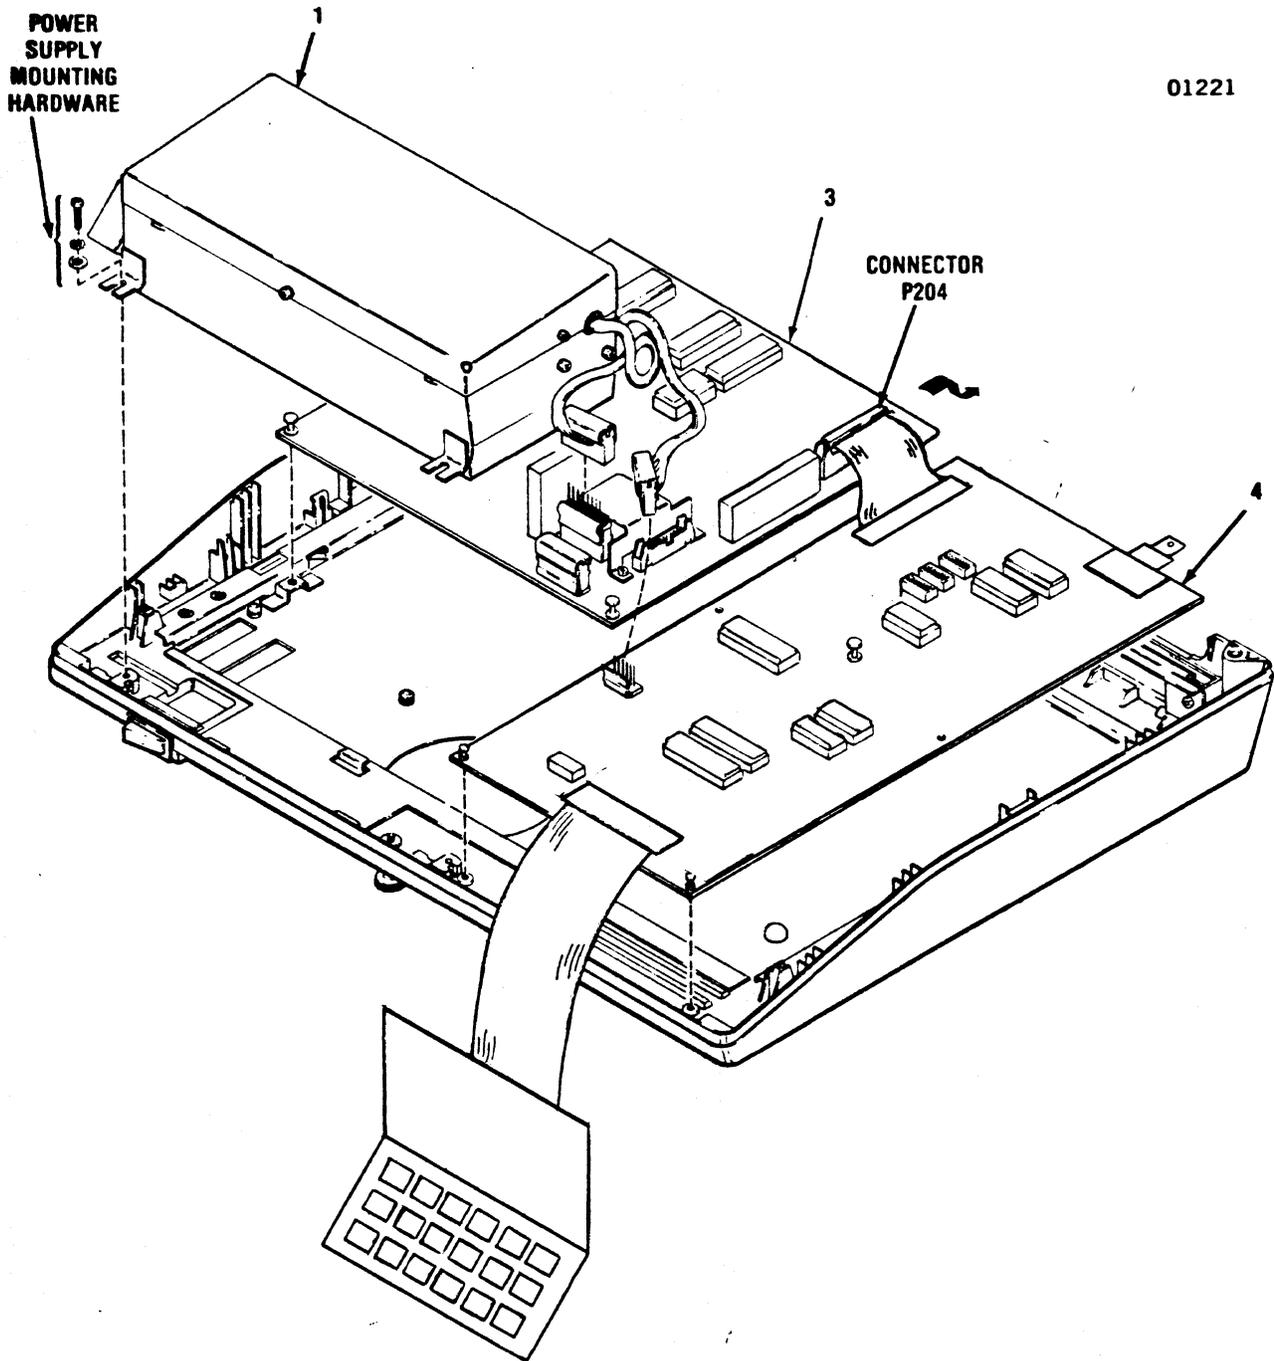

Figure 5-18. REMOVAL/REPLACEMENT POWER SUPPLY ASSEMBLY, FORMAT/CONTROLLER CABLE PRINT CONTROLLER PCB AND FORMAT CONTROLLER PCB
The power supply assembly, item 1A or 1B of Figure 5-18, is mounted to the printer base and is removed using a Phillips head screwdriver. To remove the power supply, refer to Figure 5-18 and perform the following steps:
The Print Controller pcb (part # 64000920-4001), item 3 of Figure 5-18, is mounted to the printer base and no tools are required to remove the board. To remove the Print Controller pcb, refer to Figure 5-18 and perform the following steps:
The Format Controller pcb (part # 1200302), item 4 of Figure 5-18, is mounted to the printer base and no tools are required to remove the board. To remove the Format Controller pcb, refer to Figure 5-18 and perform the following steps: